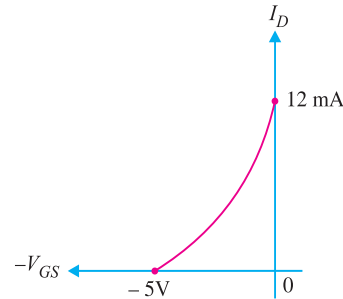

Fig. 19.14
**Example 19.1.** Fig. 19.14 shows the transfer characteristic curve of a JFET. Write the equation for drain current.
**Solution.** Referring to the transfer characteristic curve in Fig. 19.14, we have,